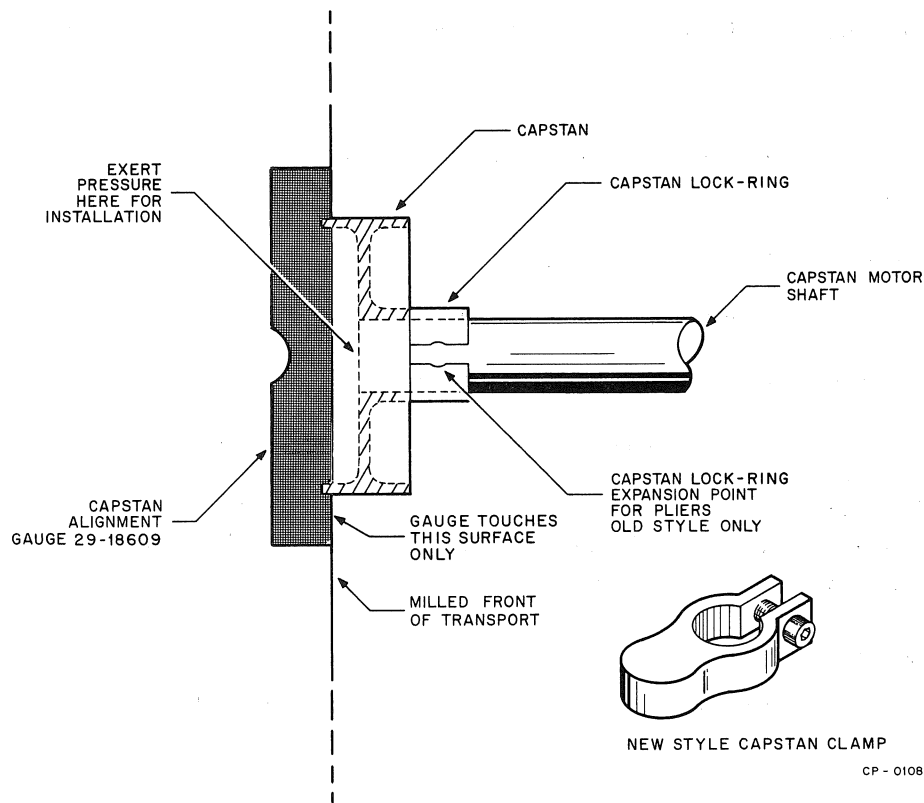

Figure 5-59 Capstan Adjustment
1. Use a pair of tru-arc pliers* to loosen the capstan lock-ring and slide the capstan from the motor shaft. Check that there are no burrs on the end of the shaft or in the slots cut in the shaft of the capstan (Figure 5-59).
*Old style only (see Figure 5-59).